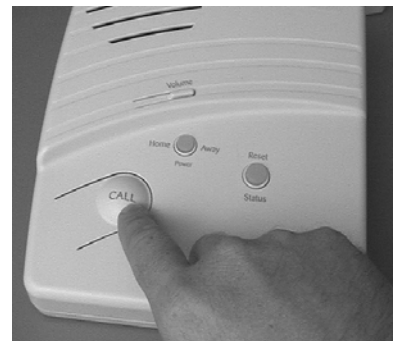

Figure 5. Activating the panel CALL button
1. On the panel front, press **Call** (see Figure 5).